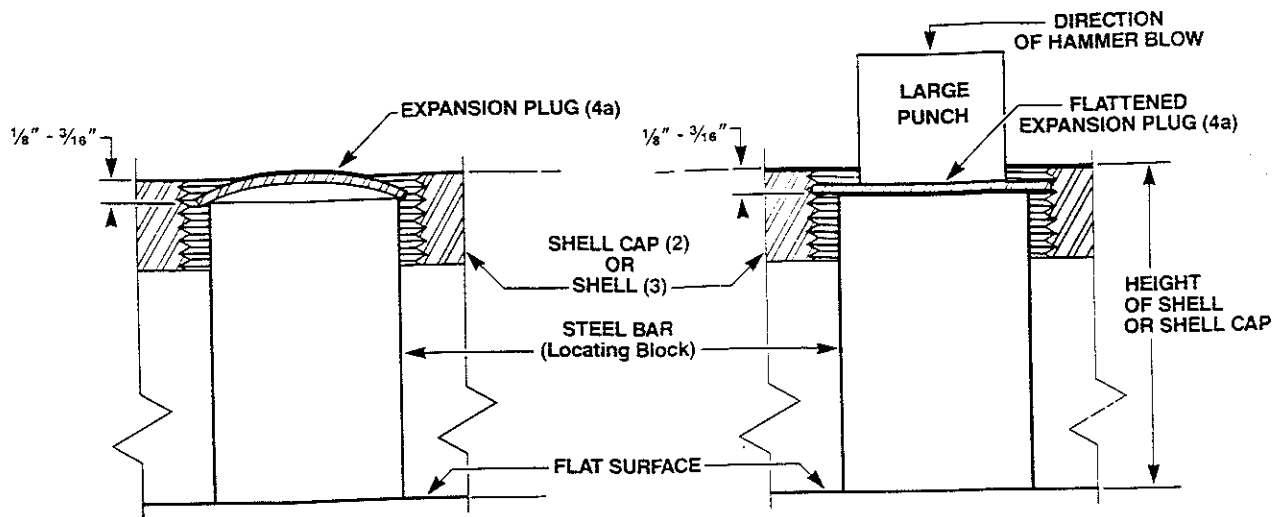

FIGURE 2-1. EXPANSION PLUG REPLACEMENT.
1. To replace expansion plug (4a) in 2 and 5-ton upright and inverted units and in 10-ton inverted models; refer to Figure 2-1. For upright models plug is installed in shell (3) (see Figure 3-1) and in shell cap (2) for inverted units (see Figure 3-1, Detail A).
a. As is appropriate, set shell cap (2) or shell (3) over a steel bar which is approximately $\frac{1}{8}$ " or $\frac{3}{16}$ " shorter in height than the shell or shell cap. The diameter of the bar should be close to the I.D. of the shell or shell cap.
2. For models with tapered load bearings, press bearing cones on worm gear (6) with small end of cone facing away from gear surface. Be sure that cone is seated properly against shoulder.
3. Insert key (22) in screw (5).
4. Assemble worm gear (6) on screw (5). For counter-bored worm gears, counter-bore must face away from screw threads.